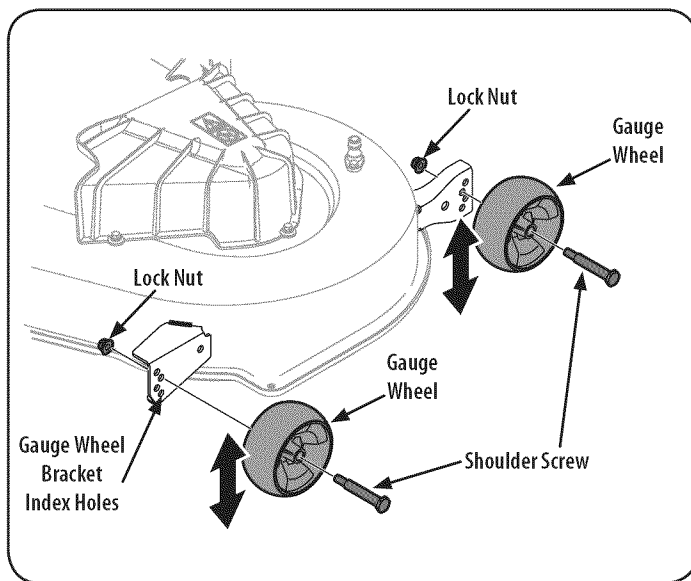

Figure 29
2. Remove the flange lock nut securing the front gauge wheel shoulder bolt to the deck. Remove the gauge wheel and shoulder bolt. Refer to Figure 29.